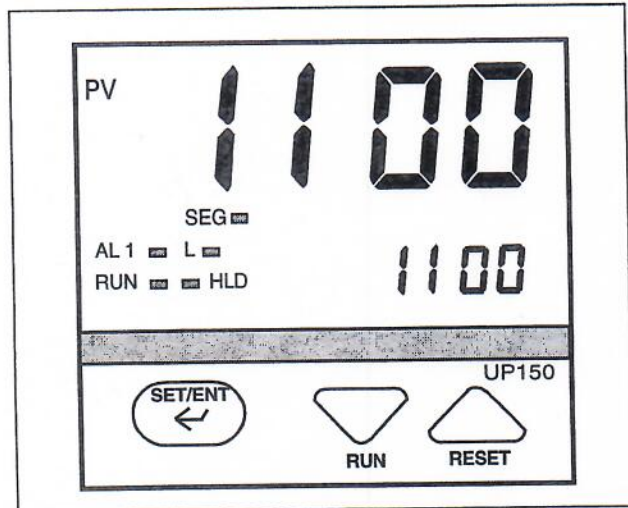

Figure 3. UP150 Control Panel
3. Press and release the 'SET/ENT' button once to select Local Mode. This selection causes the red indicator to illuminate beside "L" on the control panel (refer to Figure 3).